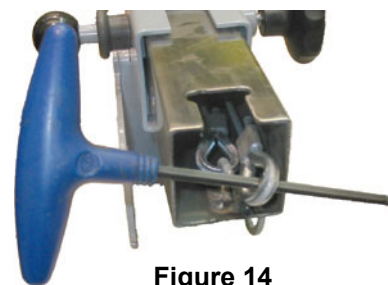

Figure 14
4. Carefully remove Cable (13-E) from Stud (13-F) and prevent it from being pulled in Stand, see Figure 14